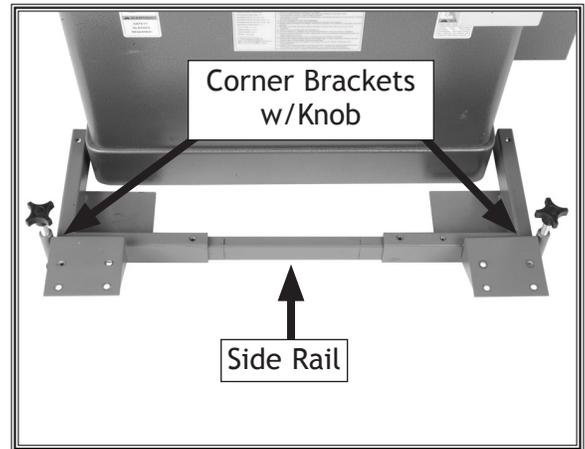

Figure 13. Rail inserted between corner brackets with knobs and feet.
3. Slide a side rail inside each of the two corner brackets with the foot posts, then slide the assembly up against the side of the machine that will be the front when pushed (see **Figure 13**).